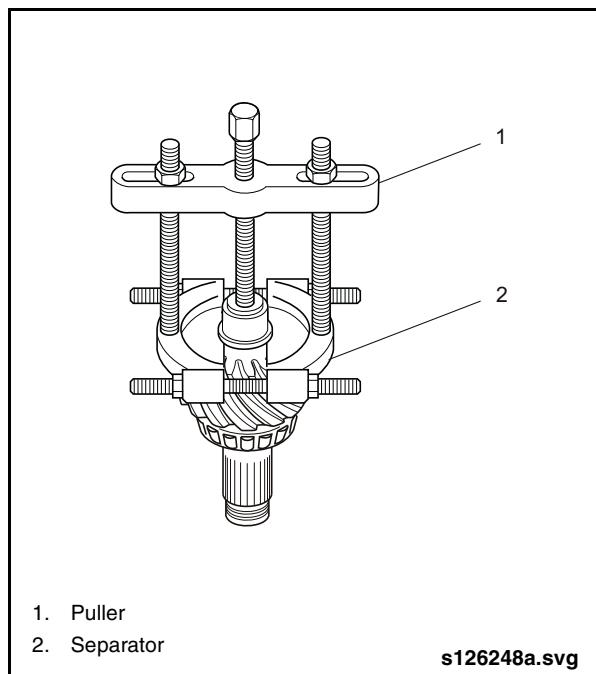

Fig. 2-89: Removing Drive Pinion Inner Bearing Race
4. Attach Puller (Item 31 from Special Tools List) to Separator. See "Fig. 2-89: Removing Drive Pinion Inner Bearing Race" on page 73.